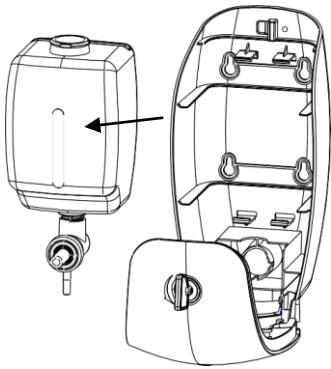

Figure 1
3. Unlock the front cover and take out the soap tank (Fig. 1).